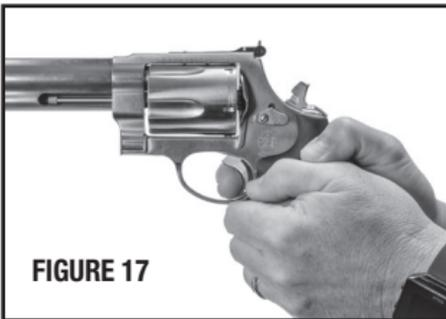

FIGURE 17
- Always use the proper grip as shown for a two-hand hold (FIGURES 17 and 18). This keeps hands and fingers away from the barrel/cylinder gap.